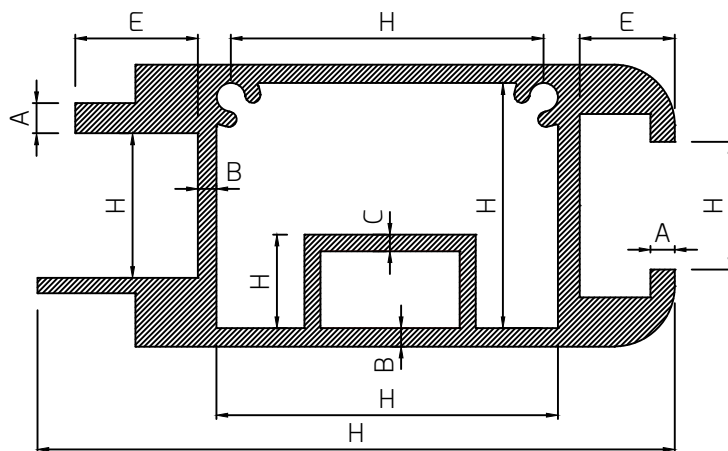

Fig 2- Definition of dimensions A,B,C,E,H specified on TABLES 1-4
3.1.1 Cross-sectional dimensions(Fig 2)